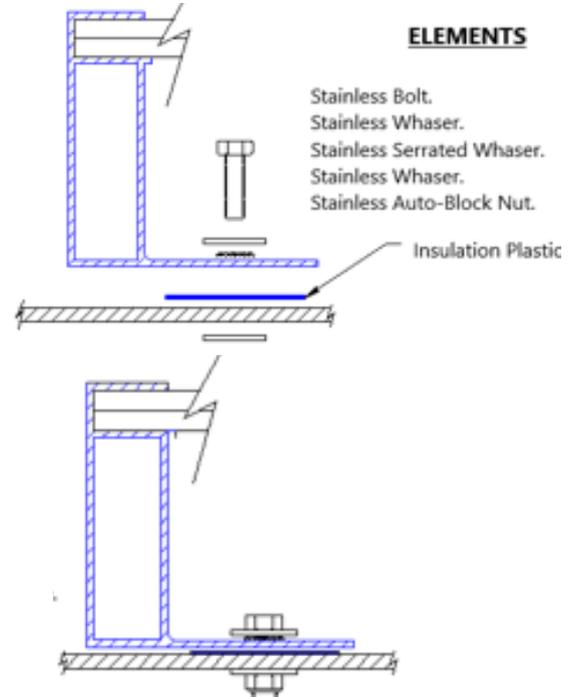

Figure 6.1.2. Screw Fixing Elements.
- Place the solar modules on the structure where they are to be installed, go through the panel frame and the structure itself with the screw, using the holes prepared for it, place a flat washer, a pressure washer and finally tighten the appropriate nut, exerting adequate pressure to fix the assembly. (You can see the union of the elements in figure 6.1.2.).